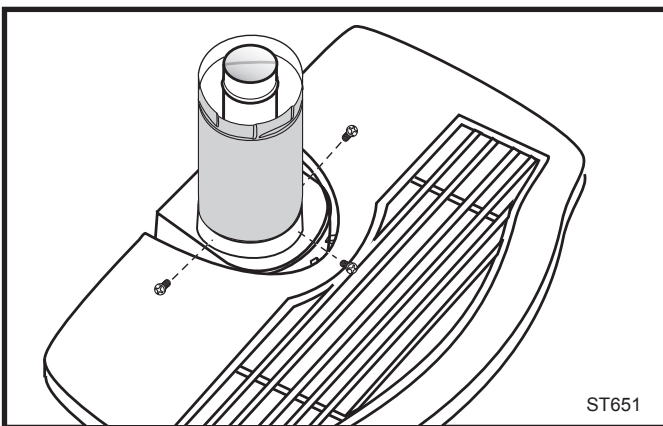

Fig. 23 Simpson Dura-Vent - install outer adapter pipe.
- 2. Install the Outer Adapter Pipe.** Orient the vertical seam to the rear, and insert the crimped end of the outer pipe into the flue collar. Fasten with three sheet metal screws provided. (Fig. 23)